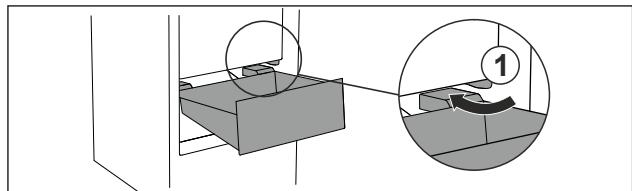

Fig. 115
- Guide drawer in at an angle around the stoppers Fig. 115 (1).